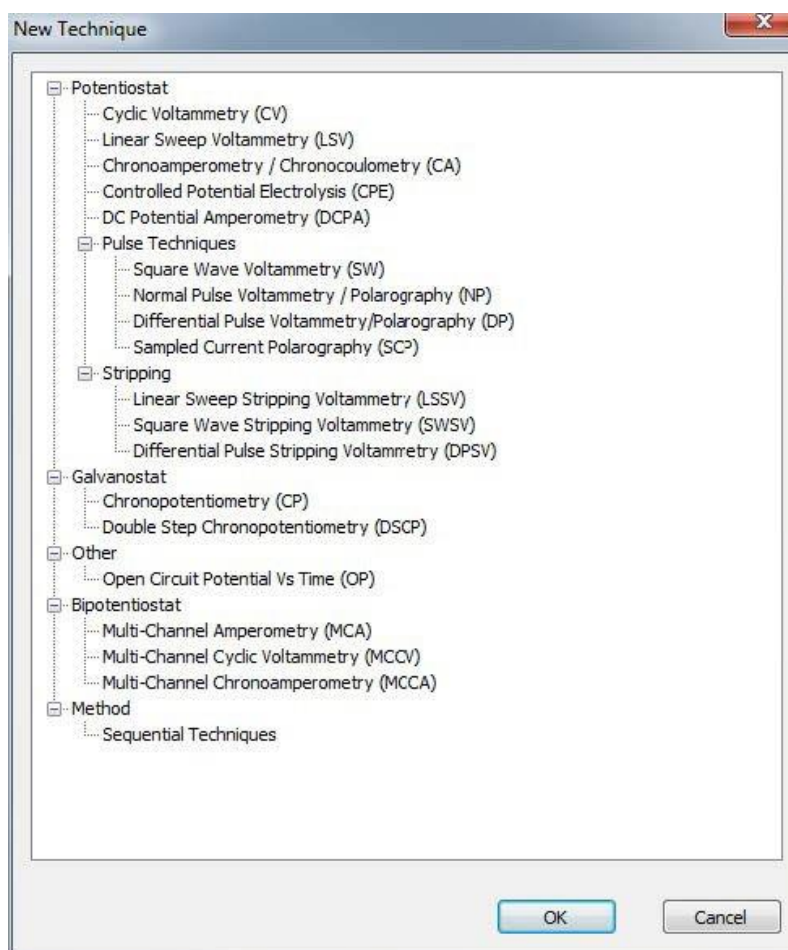

Figure 1 - Selecting a New Technique
3. Click **New** in the **File** menu to set up a new experiment. The list of available techniques is displayed (**Fig 1**). It should be noted that there are some techniques that are labeled as DEMO. This label indicates that this technique is NOT active on this particular Epsilon EClipse™. However, it is possible to load a data file for that technique to examine the parameters and the typical output. If the **RUN** button is clicked when a DEMO data file is displayed in the active window, an error message will be shown. The technique list shown in **Figure 1** is the list for the Basic-Plus and Methods Epsilon EClipse™ software.